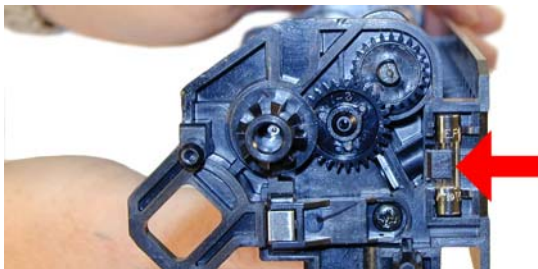

Figure 58
50) Replace the fuse. See **Figure 58**